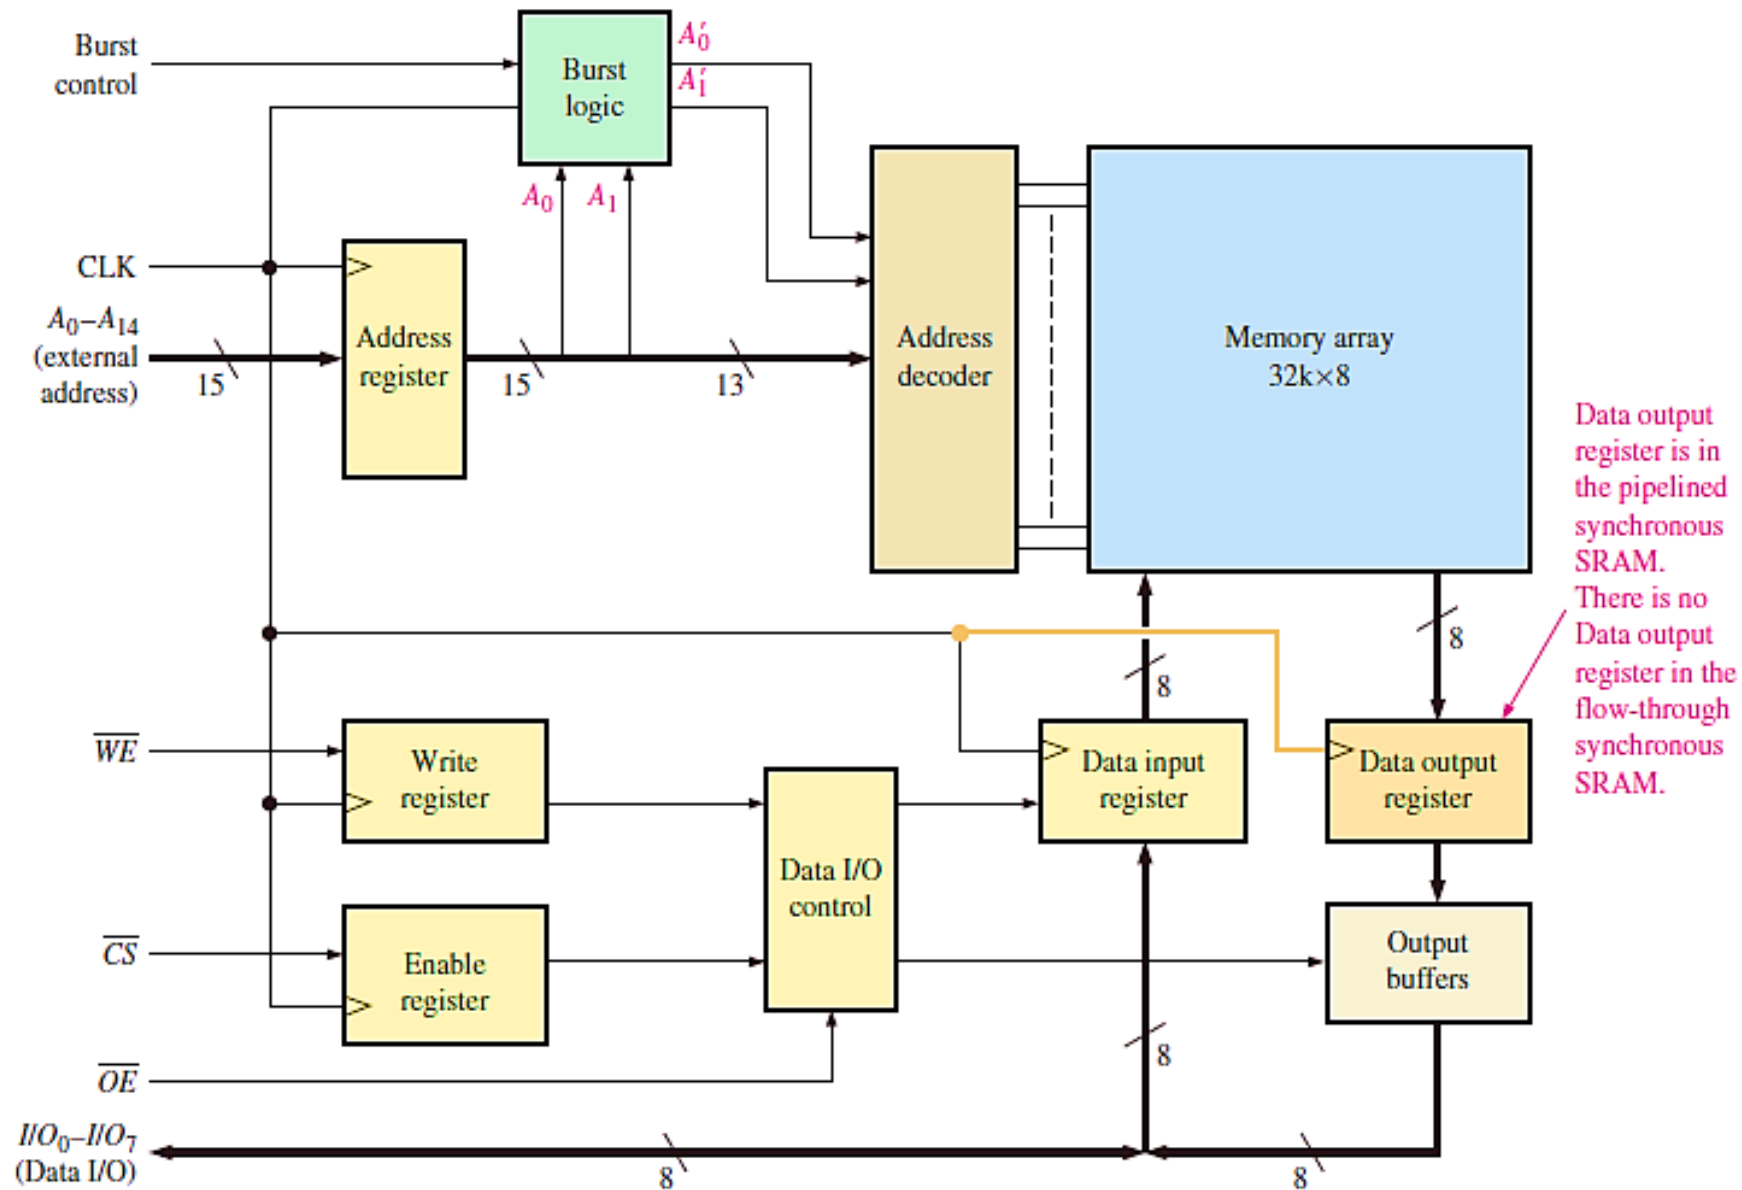

FIGURE 7 A basic block diagram of a synchronous SRAM with burst feature.
- ❑ The fundamental concept of the synchronous feature of a SRAM can be shown with Figure 7, which is a simplified block diagram of a 32k * 8 memory for purposes of illustration.
- ❑ For the purpose of simplification, a notation for multiple parallel lines or bus lines is introduced in Figure 7, as an alternative to drawing each line separately. A set of parallel lines can be indicated by a single heavy line with a slash and the number of separate lines in the set. For example, the following notation represents a set of 8 parallel lines:
- ❑ Two basic types of synchronous SRAM are the *flow through* and the *pipelined*. The flow-through synchronous SRAM does not have a Data output register, so the output data flow asynchronously to the data I/O lines through the output buffers. The **pipelined** synchronous SRAM has a Data output register, as shown in Figure 7, so the output data are synchronously placed on the data I/O lines.
❑ As shown in Figure 7, synchronous SRAMs normally have an address burst feature, which allows the memory to read or write up to four sequential locations using a single address. When an external address is latched in the address register, the two lowest-order address bits, A_0 and A_1 , are applied to the burst logic. This produces a sequence of four internal addresses by adding 00, 01, 10, and 11 to the two lowest-order address bits on successive clock pulses. The sequence always begins with the base address, which is the external address held in the address register.